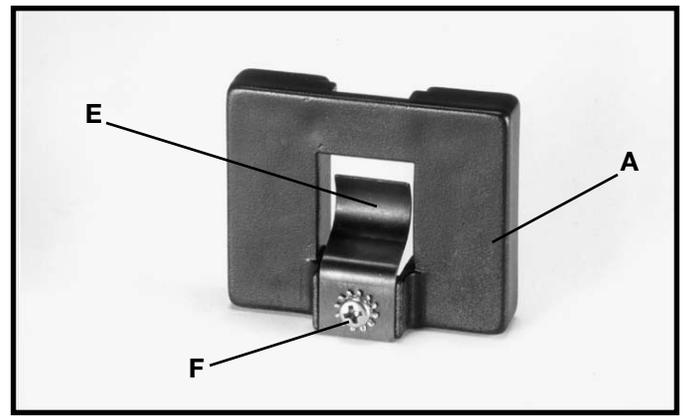
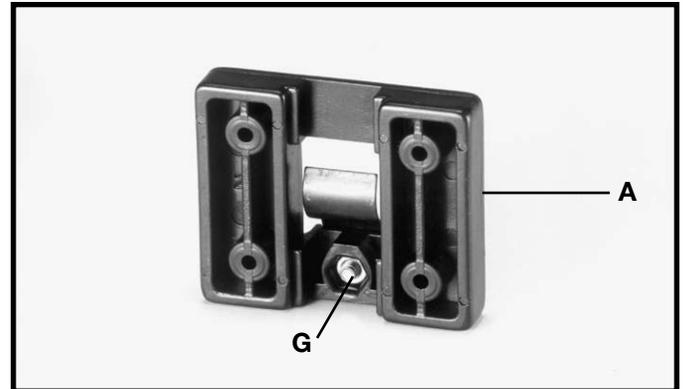

Fig. 26
Fig. 27
2. Assemble spring clip (E) Fig. 26, to the miter gage holder (A) as shown using a M4x10mm pan head screw (F), 3/16" lockwasher and M4 hex nut (G) Fig. 27, will fit into the recess at the back of the miter gage holder (A) to keep spring clip (E) Fig. 26, secured to the miter gage holder.